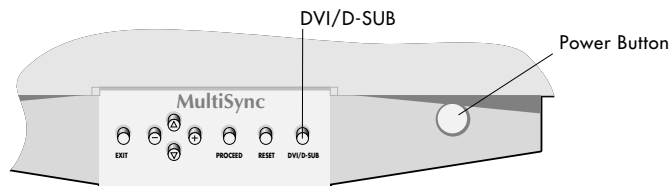

Figure D.1
4. Turn on the monitor (**Figure D.1**) and the computer.